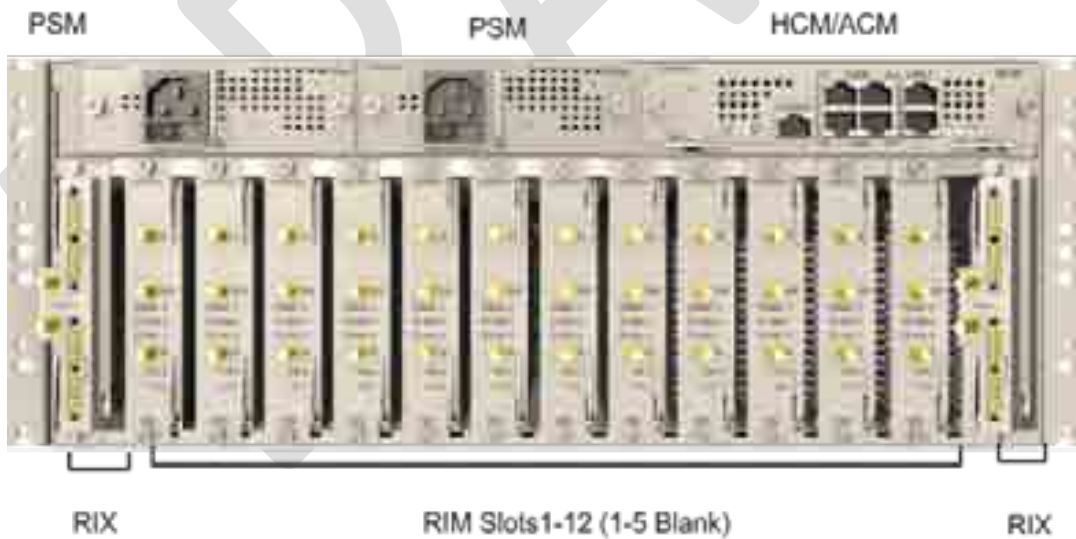

Figure 5-4. Example of occupied HEU
1. Refer to Figure 5-4 for module locations. Remove blank panel and slide in the relevant module (chassis slots are 100% mistake proof) as shown in Table 5-2 :